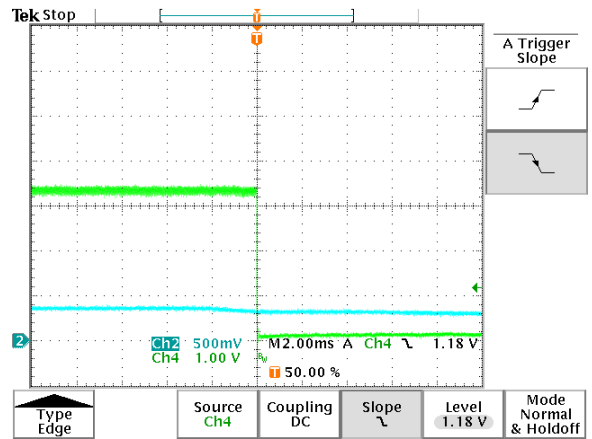

Figure 9 Turn Off Delay 48V (Ch2 = Vin 50V/div Ch4 = Vout 1V/div)
- 5.3. Change the trigger slope on the oscilloscope from rising to falling. Set the input voltage to 48V the turn off the enable switch on the input supply. Observe the waveform shown in Figure 9.